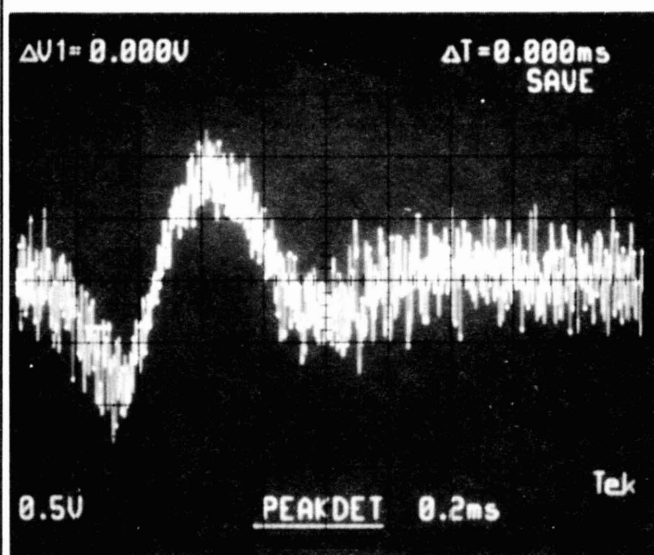

Figure 19
D. Trigger the oscilloscope to obtain the display shown in Figure 19.